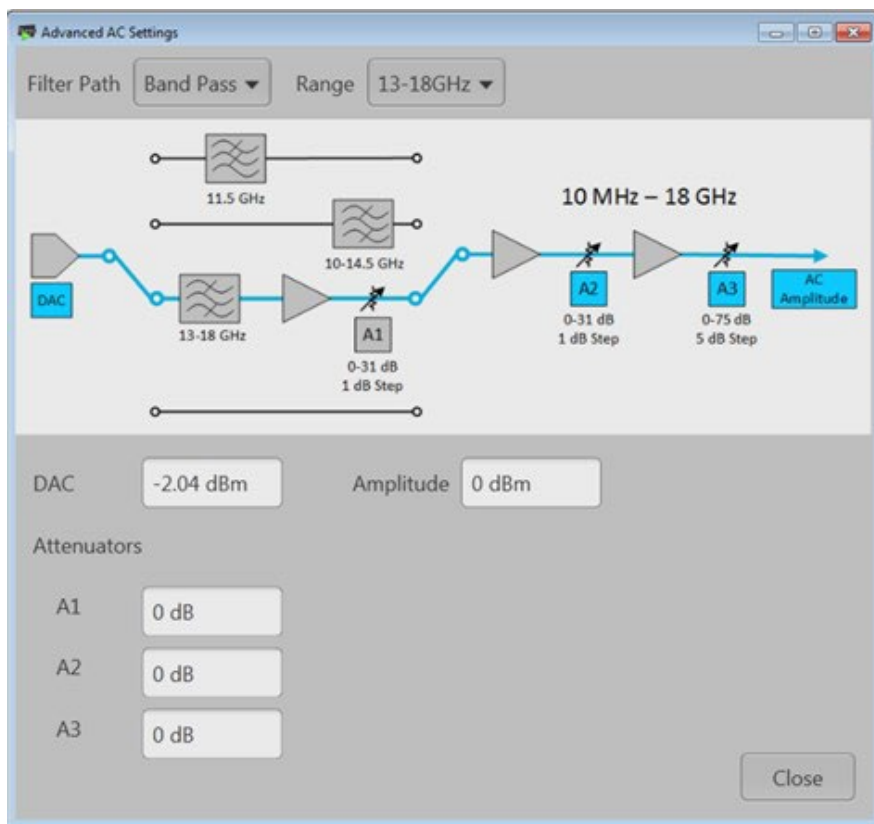

Figure 19: Option AC amplifiers and filters.
**Signal quality:** The AWG70000 single-channel series has been certified to meet SEI (specific emitter identification) test signal requirements in the US, including use of the option AC amplifier/attenuator. (See Figure 19.)
Option AC is only available at purchase of the AWG70001B model. The normal two output connectors are still present for a DC coupled differential output. An internal mechanical microwave relay disconnects these connectors and routes the interleaved DAC outputs through a wideband balun to a series of filters and amplifiers providing around +18 to +25 dBm maximum output power from 10 MHz to 18 GHz through a single AC coupled front panel output. Lower output levels can be set using internal step attenuators as shown in Figure 19.